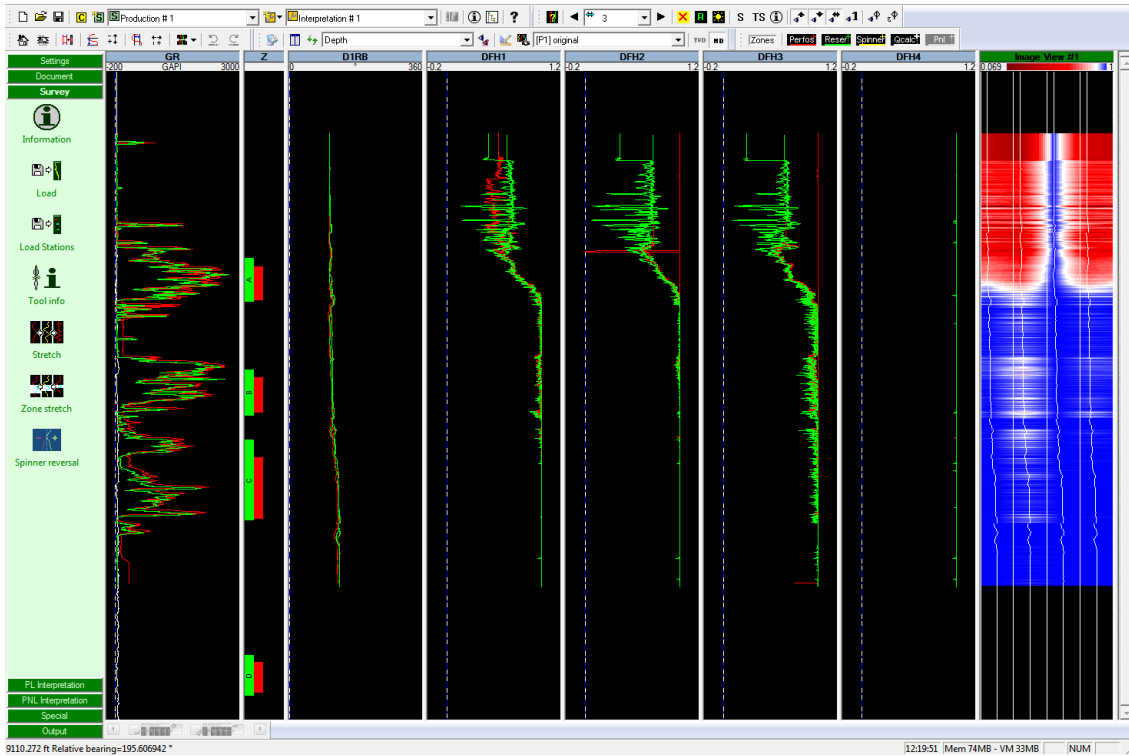

Fig. B05.13 • First image view created
- Select DEFT (DFHx) for the tool, and Pass Down 2, and validate. The image view is created, Fig B05.13: